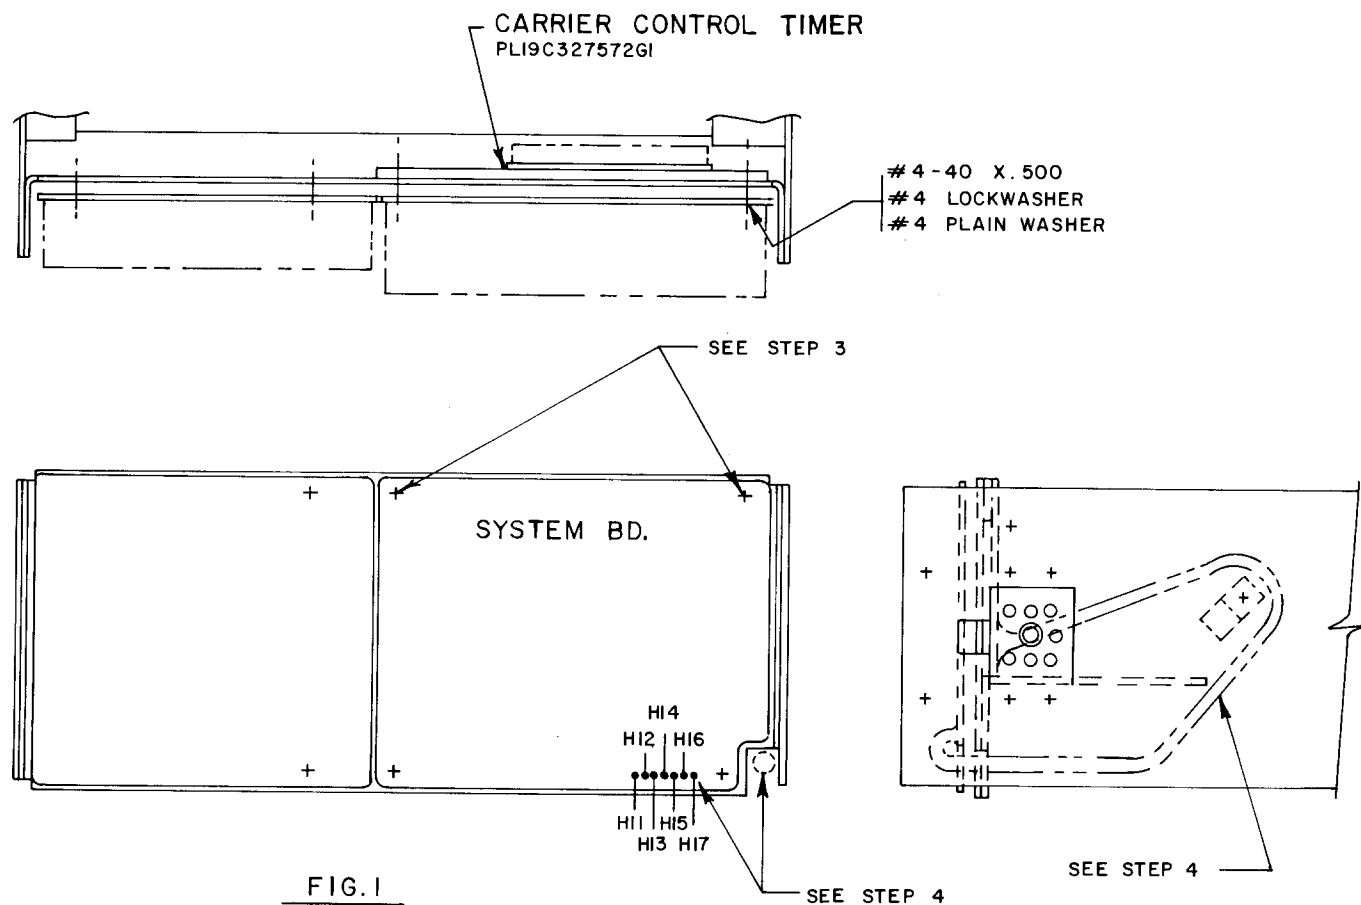

FIG. 1
- STEP 2: REMOVE THESE FOUR SCREWS AND SLIDE FRONT PANEL FROM INTERNAL FRAME. THIS EXPOSES SYSTEM AREA OF RADIO. (SEE FIG. 1).